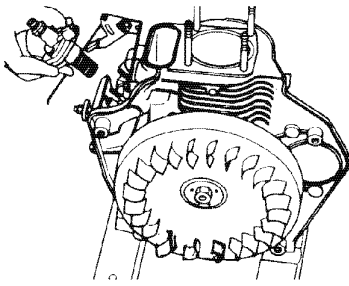

Figure 8-38
18. Remove the fuel injection pump (**Figure 8-38**).